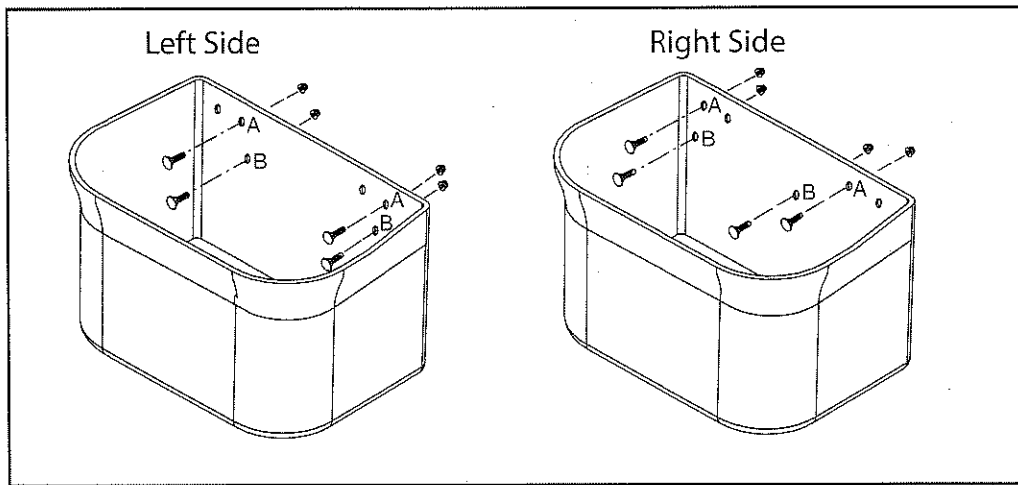
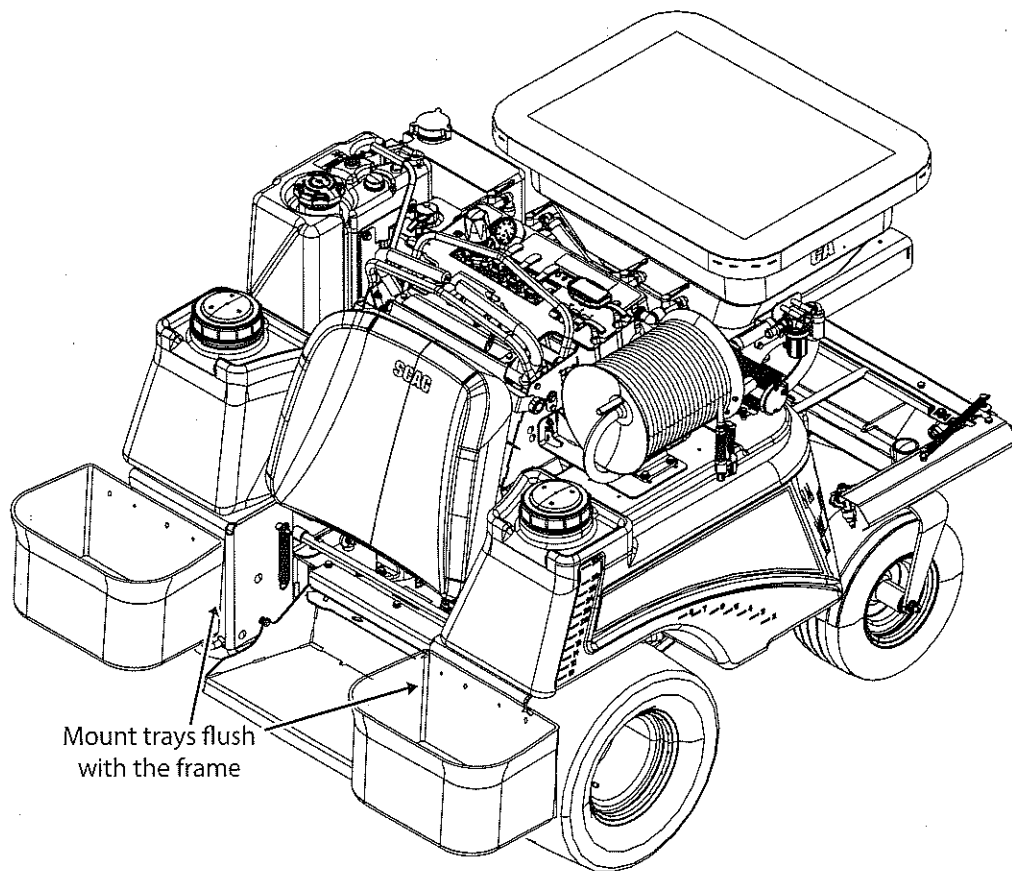

Figure 2.
Figure 3.
6. After locating the holes in the fender, align the holes in the rear tray with the holes in the rear fender, aligning the tray flush to the frame. See Figure 3. page 2. If the holes were drilled out as outlined in step 4, utilize these holes for installation (Reference B in Figure 2) otherwise use the holes that were supplied with the tray (Reference A in Figure 2). Note that a different set of holes will be utilized depending on a left hand or right hand application. See Figure 2 below.
7. Once the holes in the tray and fender are aligned and the tray is flush with the frame, insert the 3/8" -16 x 1.25" socket head cap screws included in the kit through the tray and then through the fender. See figure 2. page 2 for the orientation of the hardware. After installing the 3/8-16" socket head cap screws through the tray and fender, install the 3/8-16 locknuts on the socket head cap screws. Using a 7/32" allen wrench to hold the head of the socket head cap screws, tighten the 3/8"-16" locknuts to 96 inch lbs.